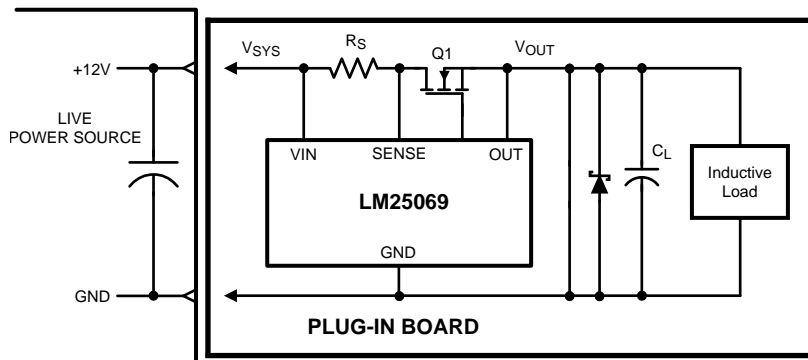

Figure 37. Output Diode Required for Inductive Loads
- If the load powered by the LM25069 hot swap circuit has inductive characteristics, a Schottky diode is required across the LM25069’s output, along with some load capacitance. The capacitance and the diode are necessary to limit the negative excursion at the OUT pin when the load current is shut off. If the OUT pin transitions more than 0.3V negative the LM25069 will internally reset, interfering with the latch-off feature of the LM25069-1, or the restart cycle of the LM25069-2. See Figure 37.